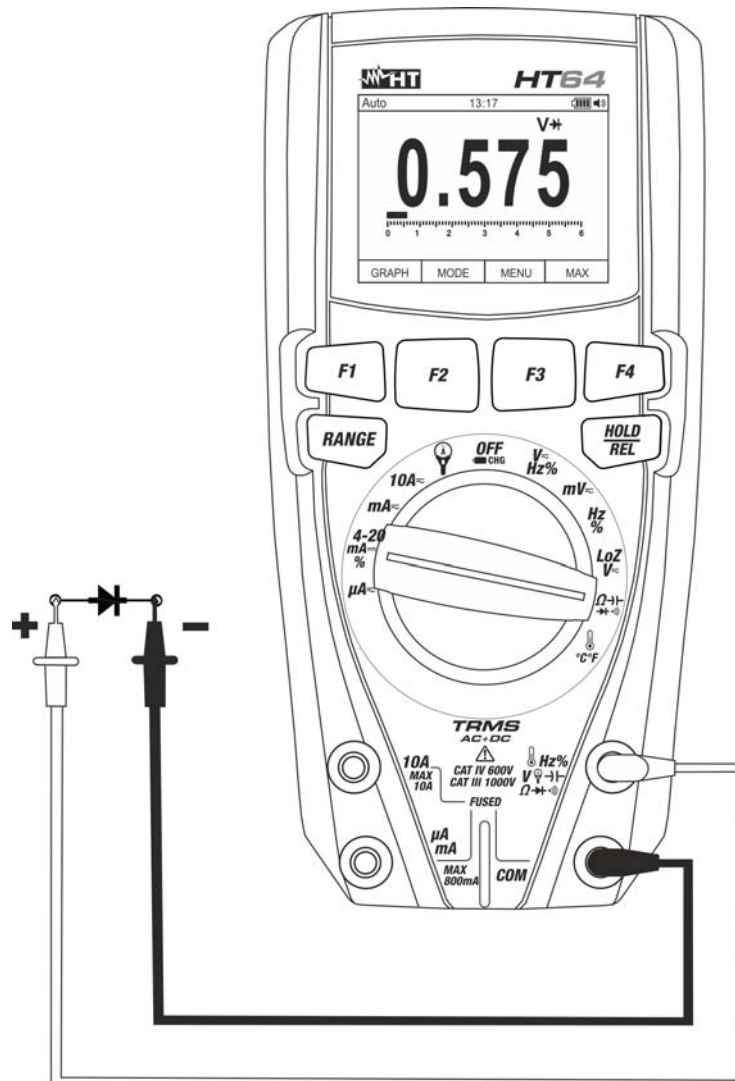

Fig. 27: Use of the instrument for diode test
4. Position the leads at the ends of the diode to be tested (see Fig. 27), respecting the indicated polarity. The value of directly polarized threshold voltage is shown on the display.
6. If the display shows the message “**O.L**”, the terminals of the diode are reversed with respect to the indication given in Fig. 27 or the P-N junction of the diode is damaged.